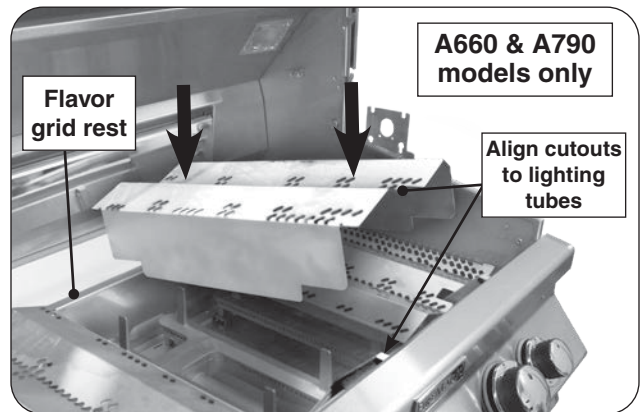

Fig. 21-3 Install flavor grids
**A660 and A790 models:** Place the flavor grids onto the front and rear flavor grid rests. Align the cutouts to the lighting tubes. See Fig. 21-3. **The short grids are designed to rest over the outer burners and the tall grid(s) over the inside burner(s).** The flavor grids allow heat from the burners to be evenly distributed throughout the cooking area.